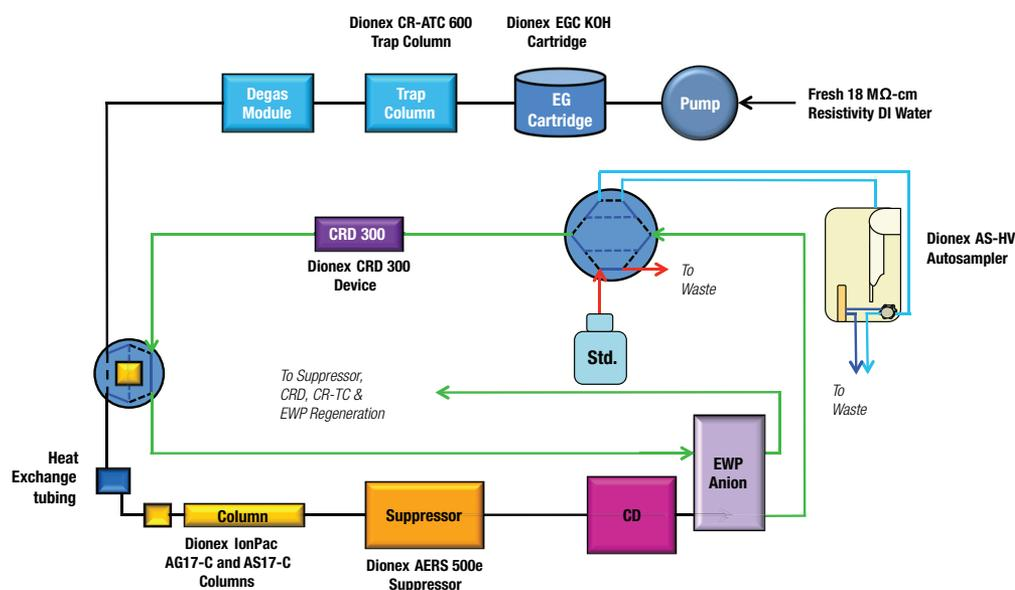

Figure 1. Flow diagram of Dionex Integrion HPIC system for trace anion determinations.
To set up this application, connect the Dionex AS-HV Autosampler and the Dionex Integrion HPIC system, the Dionex EWP Electrolytic Water Purifier, and Dionex AutoPrep module as shown in Figure 1. The flow path is similar to that of most IC systems, from the pump to the CD Conductivity Detector.
5. Complete the installation according to the Figure 1 flow diagram.
Plumb the Dionex AS-HV Autosampler in Pull mode through the waste and sampler ports in the Dionex AutoPrep valve according to Figure 1 and the autosampler Operator's Manual.1